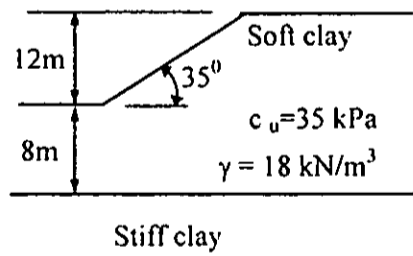

Fig. 4
(c) Fig. 4 shows the cross section of a cut slope made in a homogeneous clay layer. For undrained situation determine the factor of safety (FS) against sliding. Also determine the slope angle if FS = 3 is desired. Use chart for stability number (Fig. 5). (12)